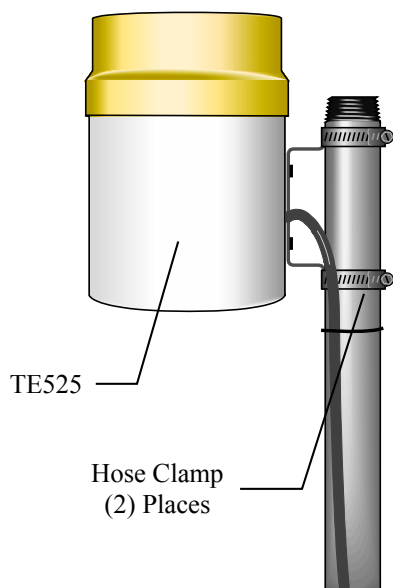

FIGURE 8-20. TE525 Texas Electronics Rain Gage
1. Mount the rain gage to a CM300-series pole or a user-supplied pole as shown in FIGURE 8-20. Mounting the gage directly to the tripod or tower is not recommended.